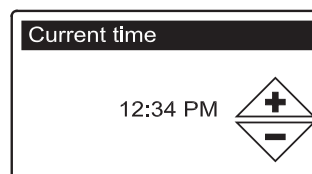

FIG. 18
19. **CURRENT TIME** Press the DOWN (▼) or UP (▲) buttons to set the current time (See Figure 18). Hold the button down to rapidly advance. Be sure that AM or PM is correct. If the system units were set to metric in Step 17, the clock will be in 24-hour format.
20. Press the SELECT (O) button.